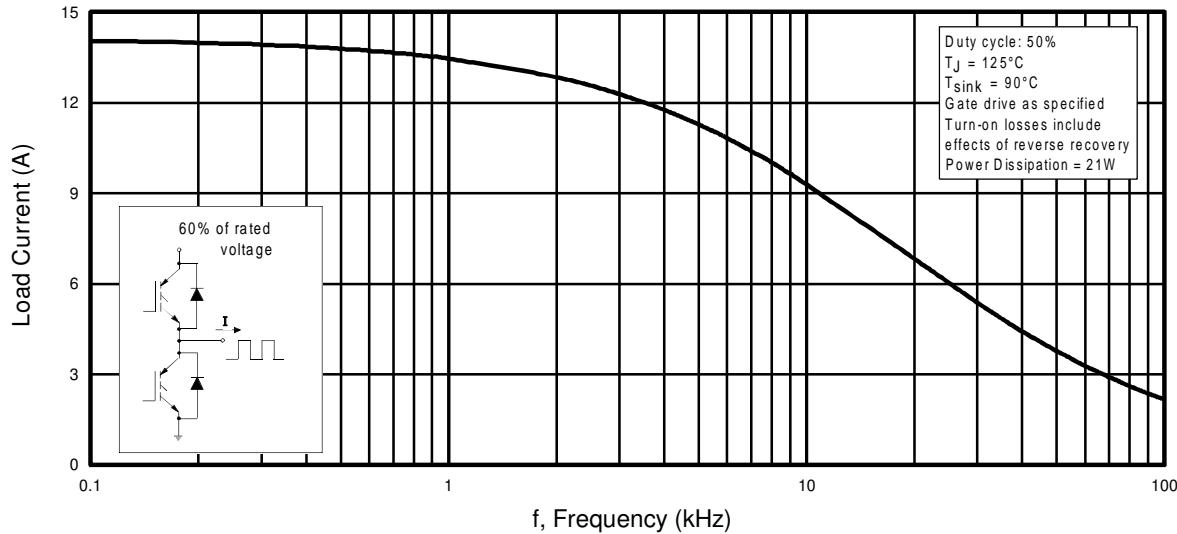

Fig. 1 - Typical Load Current vs. Frequency
- See Fig. 1 for Current vs. Frequency curve